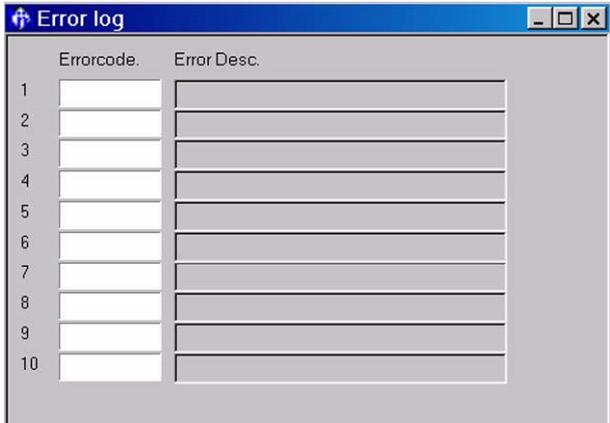

Fig 16.
- 1 Open the 'Error log' window. The log displays 'real time' functions or errors that apply at the moment they are viewed and as the machine is working. There is no memory bank of faults that may have occurred previously. → Fig 16. \(□ 21\)